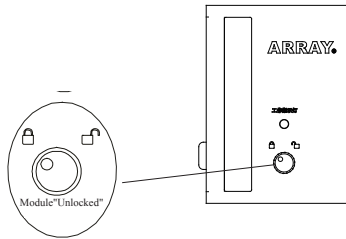

Fig. 7-3
2) Check the position locks located on the front panel of the installed UPS modules. Make sure that all of them are in the “” position and set the input breakers of all the installed UPS modules to ON position (see Fig. 7-3).